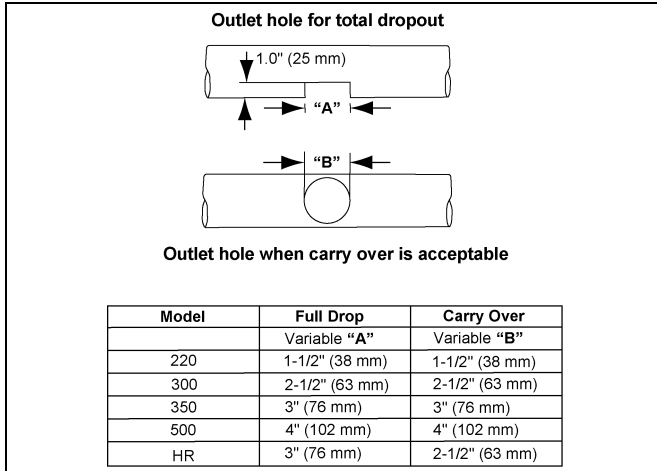

Figure 1A Outlet Hole Cutting Chart
1. Before installing the outlet drop, cut the outlet hole in the auger tube. Use a sabre saw or hacksaw when TOTAL FEED DROPOUT is desired. Use a hole saw when SOME FEED CARRY OVER is desired. (Refer to the FLEX-FLO manual for information on programming outlet drops.) See Figure 1A for dimensions of appropriate size outlet hole for the system.